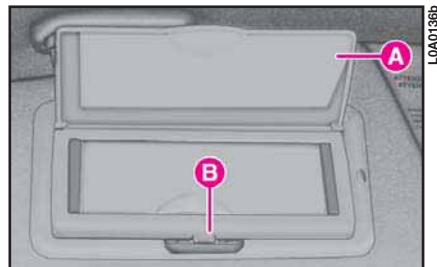

fig. 38
- 1) Lift the mirror cover **A** (**fig. 38**).